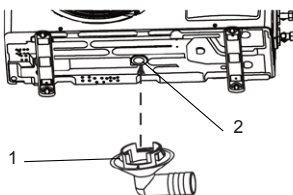

fig. 9 -
1. Fix the supplied fitting (part 1 - "fig. 9 -") in the appropriate hole (part 2 - "fig. 9 -") on the base of the outdoor unit. The fastening is carried out by inserting the shaped part of the fitting in the hole.